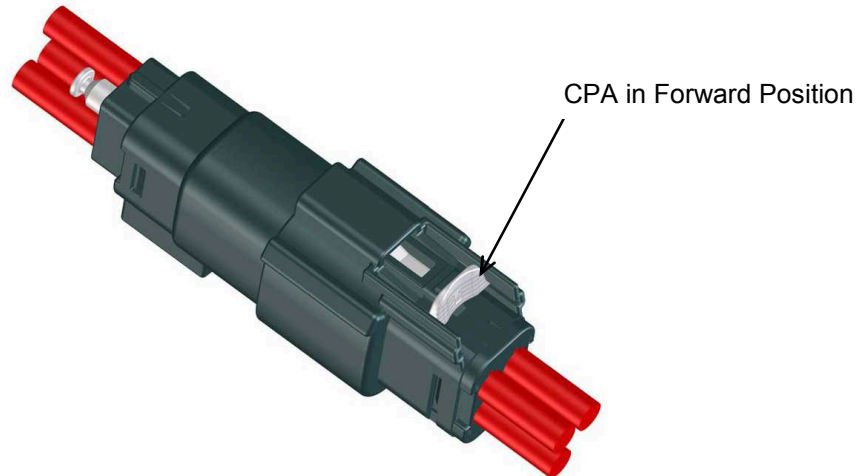

Figure 12: CPA in Locked Position
1. After mating the plug and receptacle connectors, push the Connector Position Assurance feature (CPA) on the receptacle forward until it clicks or is as far forward towards mating end of receptacle as possible (See Figure 12). This will prevent accidental depression of latch and un-mating of connectors.